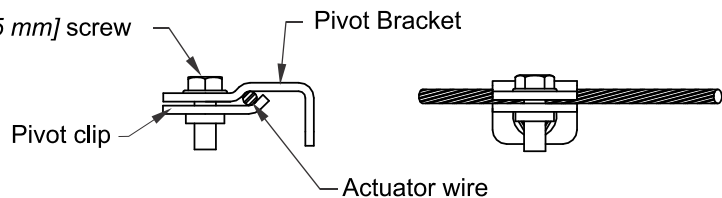

Figure 68. Clamping to actuator wire
3. Using the first pan away from the actuator, push the inner cone to the open position. Place the actuator wire between the pivot bracket and pivot clip then tighten the 10-24 screw, see figure 68.